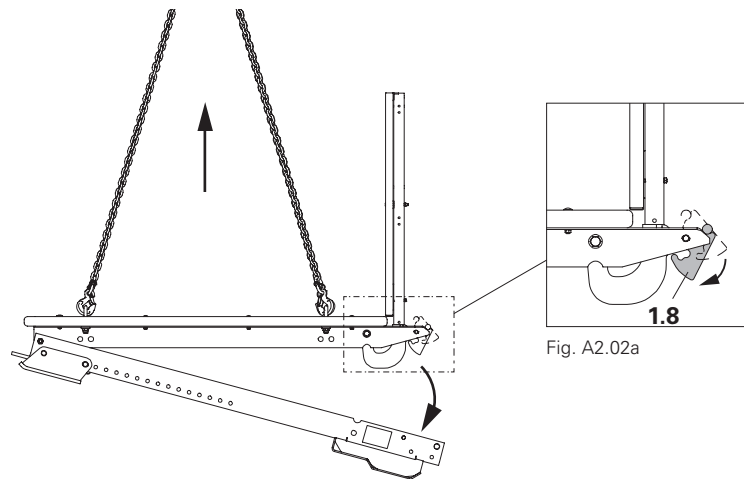

Fig. A2.02
4. Fold down safety pawls (1.8) and completely unfold platform through further lifting. (Fig. A2.02 + A2.02a)